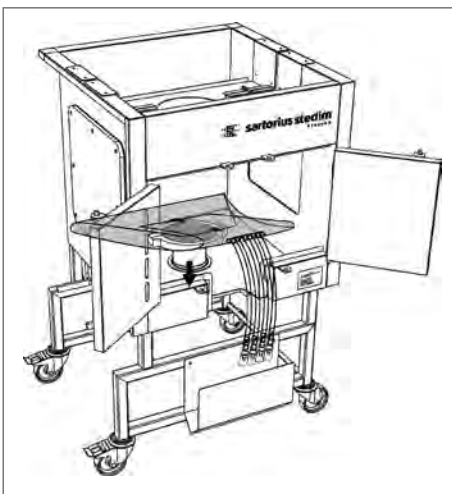

Figure 49
9. Introduce the folded bag in the Palletank® by the front opening and insert the magnetic clamp with its aligner in the drive-bag interface (see Fig. 49).